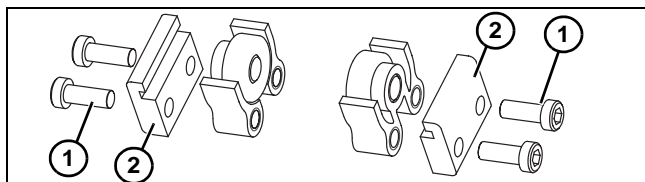
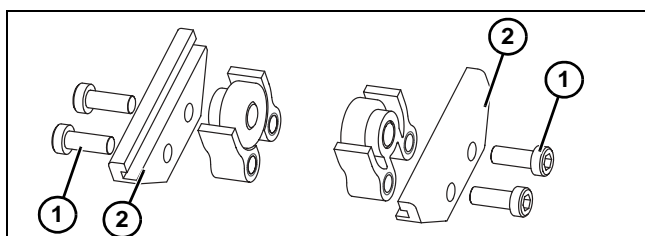

Figure 13
Figure 14
- Locate return rollers. Exploded views shown in Figure 13 & Figure 14.
- Remove screws (Figure 13, item 1) & (Figure 13, item 1) and clips (Figure 13, item 2) from roller assembly.